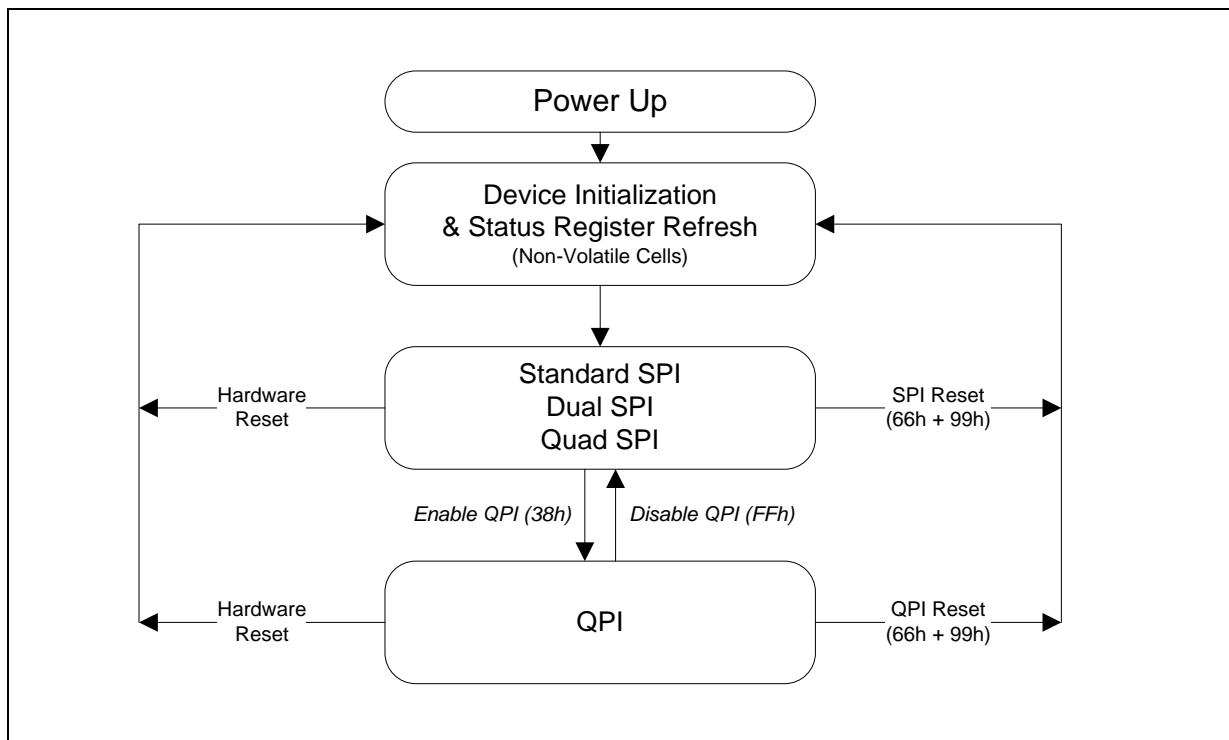

Figure 3. W25Q32RV Serial Flash Memory Operation Diagram
The W25Q32RV supports Quad Peripheral Interface (QPI) operations only when the device is switched from Standard/Dual/Quad SPI mode to QPI mode using the “Enter QPI (38h)” Instruction. The typical SPI protocol requires that the byte-long Instruction code being shifted into the device only via DI pin in eight serial clocks. The QPI mode utilizes all four IO pins to input the Instruction code, thus only two serial clocks are required. This can significantly reduce the SPI Instruction overhead and improve system performance in an XIP environment. Standard/Dual/Quad SPI mode and QPI mode are exclusive. Only one mode can be active at any given time. “Enter QPI (38h)” and “Exit QPI (FFh)” Instructions are used to switch between these two modes. Upon power-up or after a software reset using “Reset (99h)” Instruction, the default state of the device is Standard/Dual/Quad SPI mode. To enable QPI mode, the non-volatile Quad Enable bit (QE) in Status Register-2 is required to be set. When using QPI Instructions, the DI and DO pins become bidirectional IO0 and IO1, and the /WP and /HOLD pins become IO2 and IO3 respectively. See Figure 3 for the device operation modes.